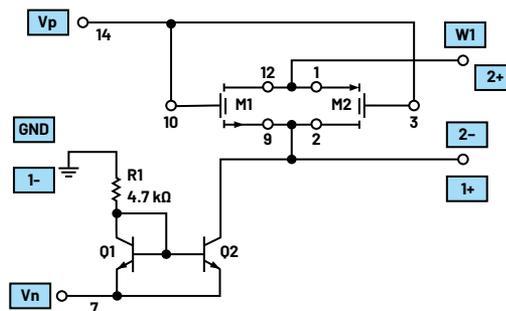

Figure 2. NMOS R_{ON} test circuit.
Construct the test circuit shown in Figure 2. The blue boxes indicate connections to the connector on the ADALM2000. NMOS and PMOS devices M1 and M2 are contained in the CD4007 package. All unused pins can be left floating. To measure the on-resistance (R_{ON}) of the MOS transistors we first need to force a known current through the resistance and then measure the voltage across the resistance. The two NPN devices Q1 and Q2 along with resistor R1 form a current source with an output current of approximately 1 mA. The exact magnitude of this current is not important in that we are mainly interested in the change in the R_{ON} of the MOS devices as the voltage at their source/drain varies over the range of between the plus and minus power supplies.
Connect the circuit shown in Figure 2 to a breadboard.
- ▶ For the circuit in Figure 2, at what voltage does the NMOS device turn off?
- ▶ For the circuit in Figure 2, what happens to the drain-to-source voltage as the NMOS transistor turns off?